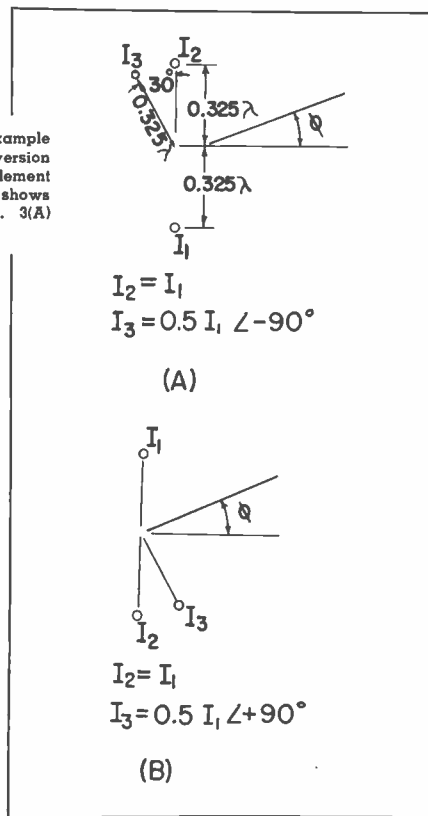

FIG. 3. Another example of the method of inversion applied to a three-element array. Figure 3(B) shows the system in Fig. 3(A) after inversion.
Shown in Fig. 3.
Another example of the method of inversion applied to a three-element array is shown in Fig. 3. The arrangement of Fig. 3(A) affords a reasonable distribution of power into the three elements¹ while the inversion requires a less desirable distribution. Table 2 displays the operating conditions relating to the two configurations.